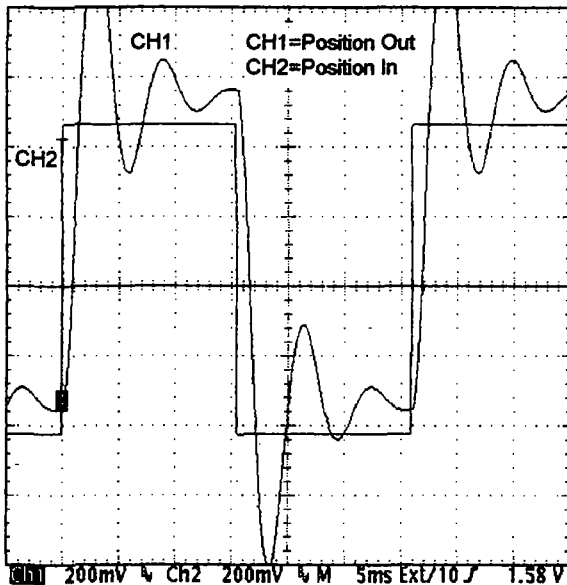

Figure 19.
7. The scanner should now be responding to the input waveform, but should look very underdamped. Continue to turn R28 CW until the oscillations just die out before the next half cycle of the input signal. See figure 19.